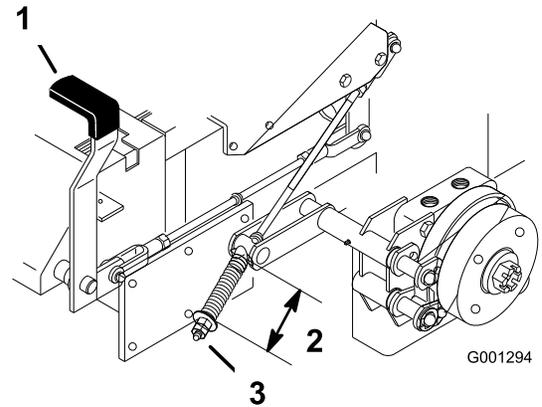

Figure 57
2. Measure the length of the spring. Measurement should be 2-1/2 inch (64 mm) between the washers (Figure 57).
3. If adjustment is necessary, release the parking brake, loosen the jam nut below the spring and adjust the nut directly below the spring (Figure 57). Turn the nut until the correct measurement is obtained. Turn the nut clockwise to shorten spring length and turn counter-clockwise to lengthen the spring.